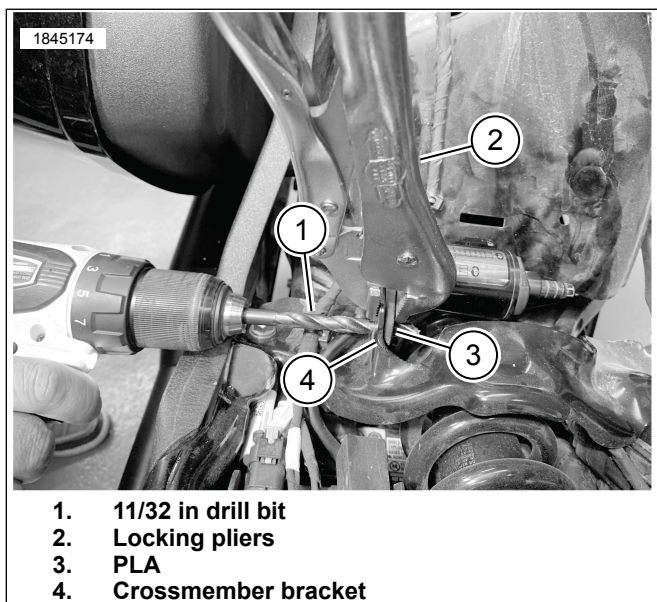

Figure 2. Rework Mounting Hole
2. See Figure 2. Install locking pliers (2) to Pre-Load Adjuster (PLA) (3) and crossmember bracket (4).
3. Remove Original Equipment (OE) 1/4-20 inch screw.